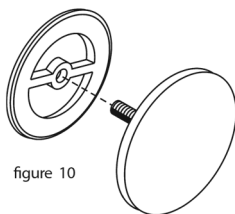

figure 10
19. Place the Back Plate over the screw of the Overflow Cover (figure 10)